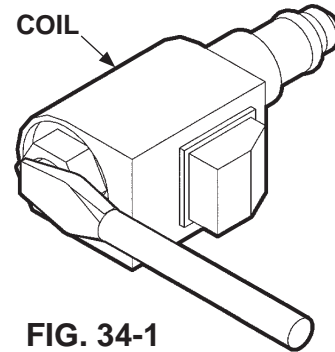

FIG. 34-1
1. Check if solenoid valves are constantly energized by touching a screwdriver to the top nut of the solenoid (**FIG. 34-1**). Try pulling the screwdriver away from the solenoid. If the solenoid nut attracts the screwdriver (magnetically) without pushing the toggle switch, the control circuit is operating incorrectly. Check if toggle switch, wiring or coil are faulty.